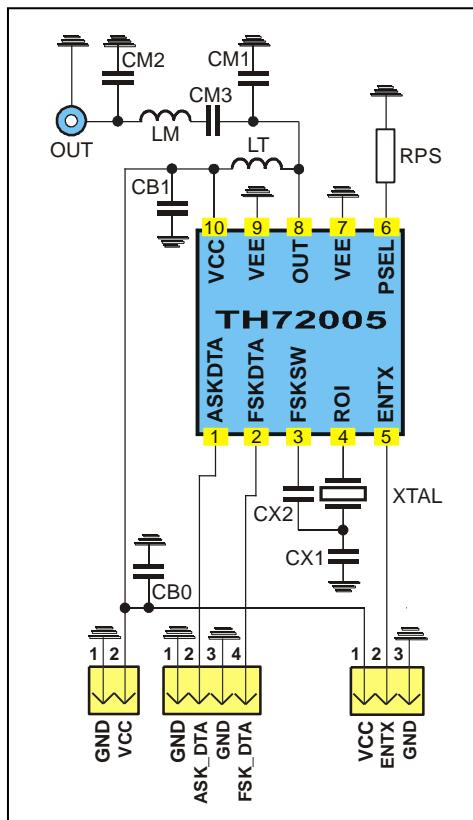

Fig. 18: Test circuit for FSK and ASK with 50Ω matching network
typical values at $T_A = 23^\circ\text{C}$ and $V_{CC} = 3\text{ V}$; test circuit shown in Fig. 18, $f_c = 315\text{ MHz}$
- Data according to test circuit in Fig. 18
6.1. Test circuit component list to Fig. 18